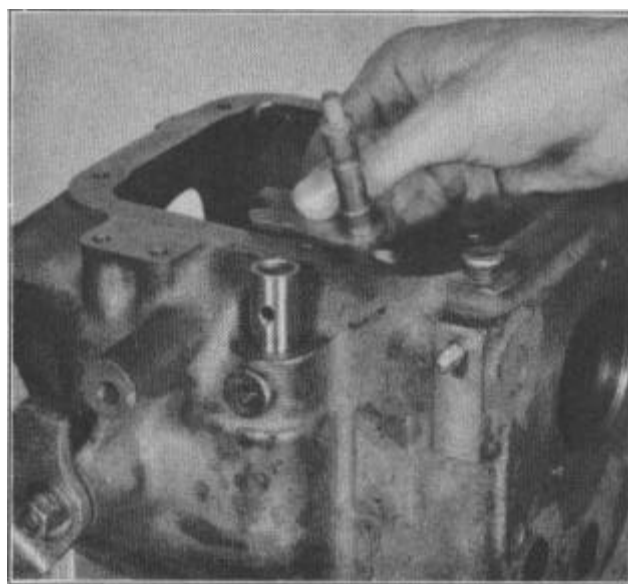

FIGURE 15
23. Remove shift selector shaft from inside of case. Remove steel bushing by pulling upward, Figure 15.
4. Apply a few drops of oil to shift-shaft, then insert shaft in case and lock in position with shift-shaft pin, Figure 15. Install the rubber sealing washer, outer shift lever, plain washer, shakeproof washer, and nut and tighten securely. U more than a slight drag is felt when rotating shaft, check oil seal for interference.